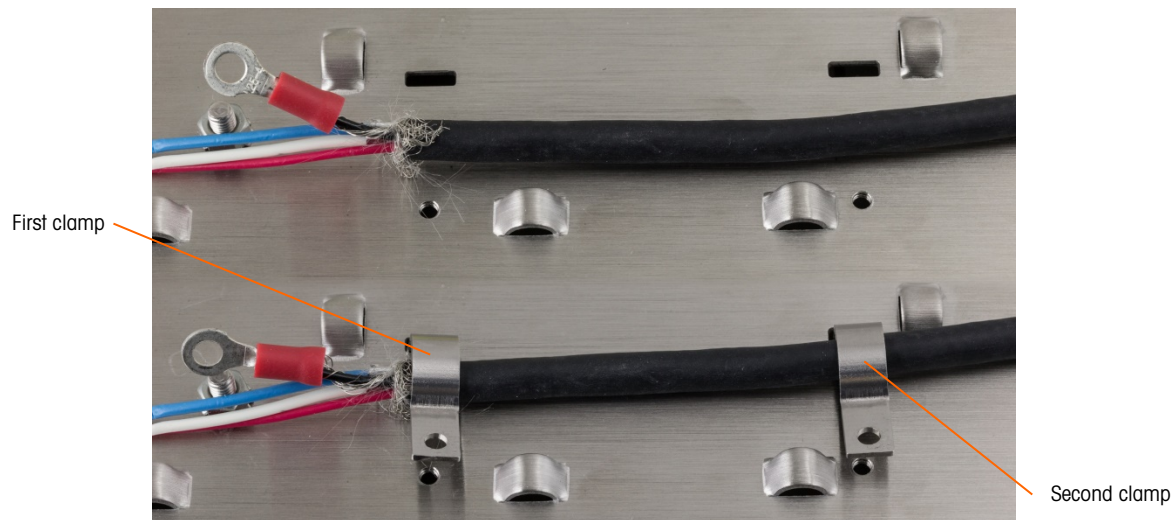

Figure 2-84: Securing the PowerMount Cable – Panel
14. Place the cable in position for clamping, as shown in Figure 2-84. The folded shield wires must be positioned under the first clamp to form a ground connection to the terminal chassis.